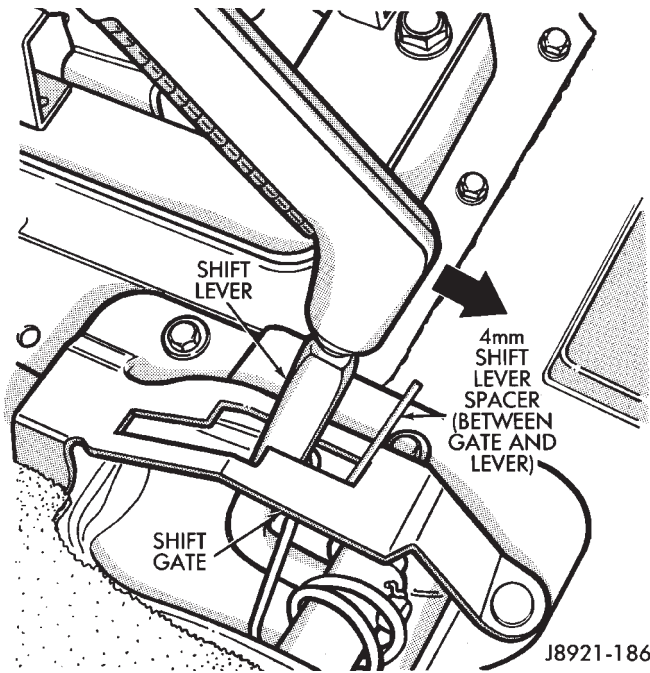

Fig. 7 Installing Shift Lever Spacer—XJ
- (1) Remove shift lever bezel.
- (2) Move shift lever into 4L position.
- (3) Insert 3 mm (1/8 in.) spacer between shift lever and forward edge of shift lever gate (Fig. 7). Secure